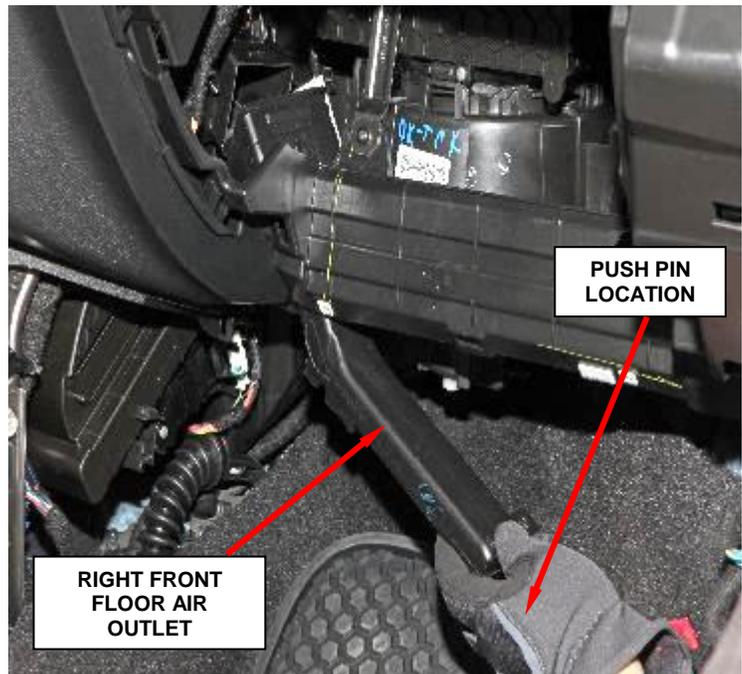

Figure 18 – Right Front Floor Air Outlet
43. Working in the glovebox opening, remove the retaining push pin from the HVAC housing by the blower motor (Figure 18).
44. Disengage the right front floor air outlet from the HVAC housing (Figure 18).